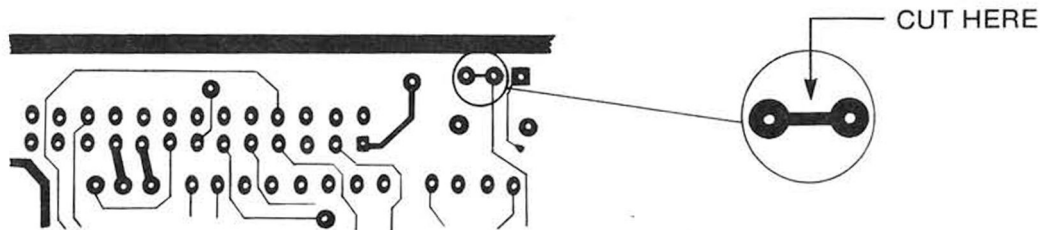

Figure 3-12
2. Turn the board over so the solder side faces up, and cut the trace that connects the center pin and pin #2 (See Figure 3-12).